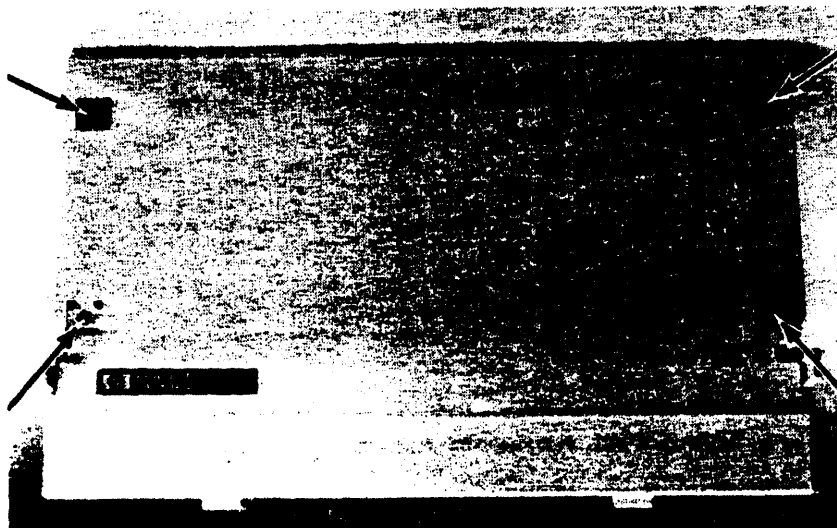

Figure 6-34. Keyboard Bottom Screws
2. Remove the four bottom screws. See figure 6-34.